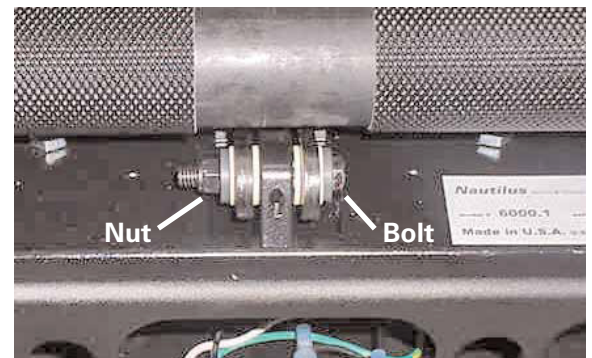

Figure 4
4. Remove the bolt holding the IGUS components using two 1/2" sockets (Figure 4) and remove the bushings and all beige components.
7. Install the nut and tighten. (See Figure 4.)